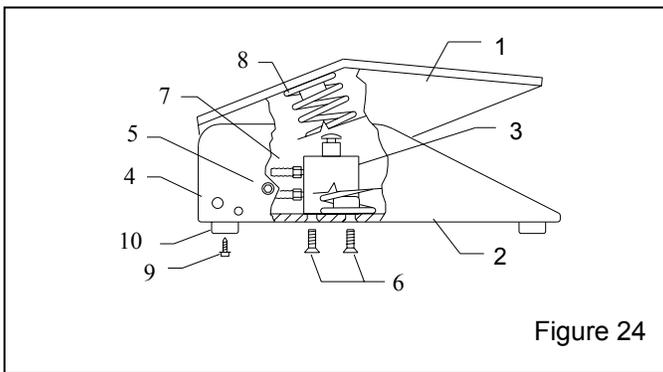

Figure 24
9.5 Foot Pedal Assembly, Figure 24